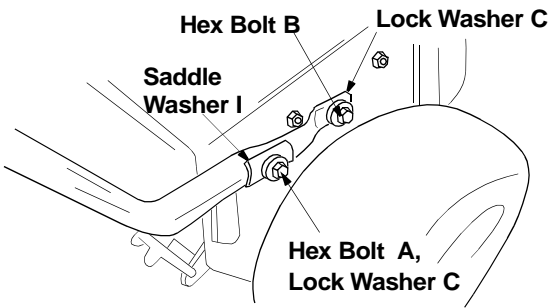

Figure 2
- Insert hex bolt (B) and lock washer (C) through these holes to secure the handle to the snow thrower housing. See Figure 2. There are weld nuts welded to the inside of the frame for these bolts. Do not tighten now.
- Place saddle washer (I) over upper holes on handles as shown in Figure 2. Secure to the frame with lock washers (C) and hex bolts (A). Do not tighten now.